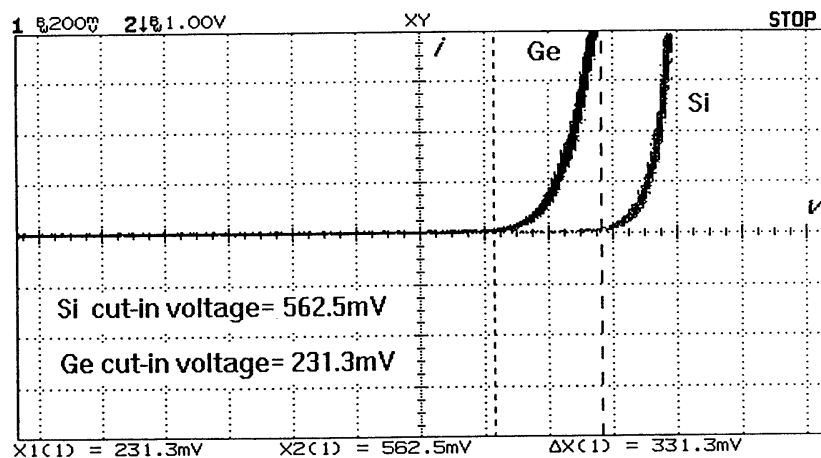

Fig. 7 – Graph Illustrating the Differences between the Si and Ge Diodes
- Your work should resemble Fig. 7.